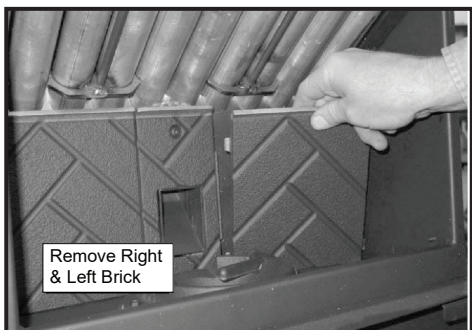

Figure 29.2
3. The top baffle must be removed before you can remove the right and left brick. Remove the right brick by holding top lip of brick and lifting up, then push outside edge back. Slide brick to the right until it is flush with the firebox. Rotate the inside edge of the brick forward and remove brick. Repeat for left brick (**Figure 29.2**).
5. Insert baffle into top front of firebox and then raise up the bottom end and insert baffle tab into notch on the right bracket to lock into place (**Figure 29.2**). Place the left side hook of the bottom baffle over the top of brick for stability.